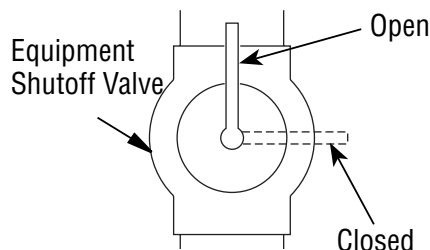

Figure 14 - Equipment Shutoff Valve
1. Close equipment shutoff valve (see **Figure 14**).
1. Open equipment shutoff valve (see *Figure 14, Page 15*).